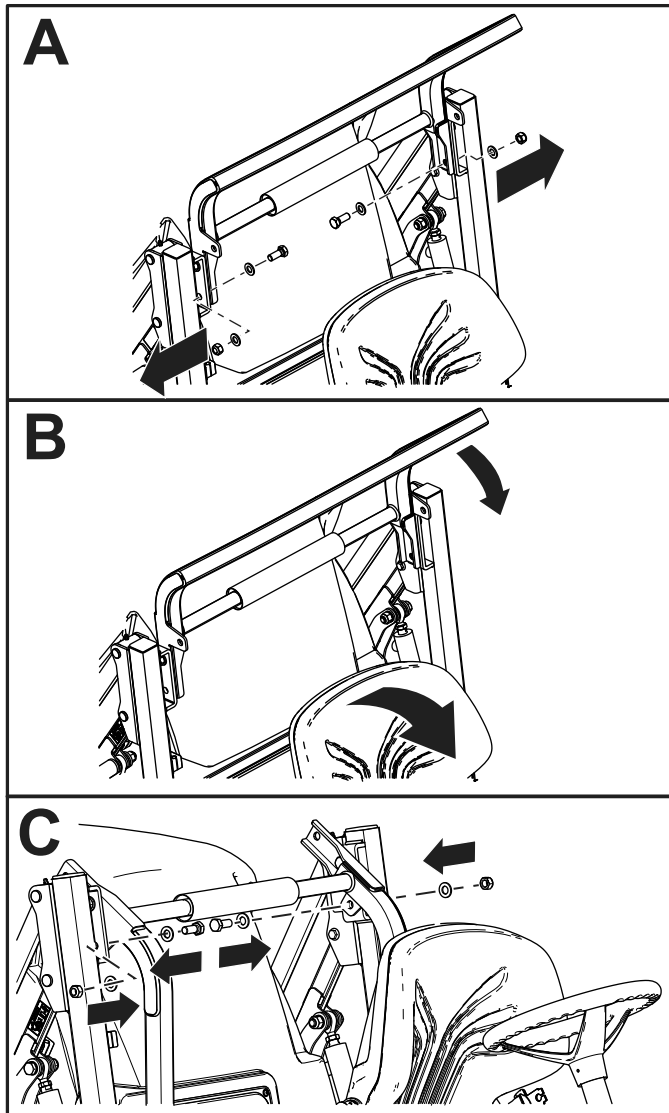

Figure 18
4. Remove the nuts, bolts, and washers (Figure 18).
6. Lower the roll bar and secure it in place with the nuts, bolts, and washers (Figure 18).
Note: Use Figure 18 in reverse order to raise the roll bar.
5. Remove the nuts, bolts, and washers from the roll bar (Figure 18).
6. Raise the roll bar and secure it in place with the nuts, bolts, and washers (Figure 18).